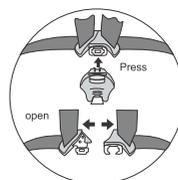

Fig.10
2. Press the red button to open the buckle. (Fig.10)